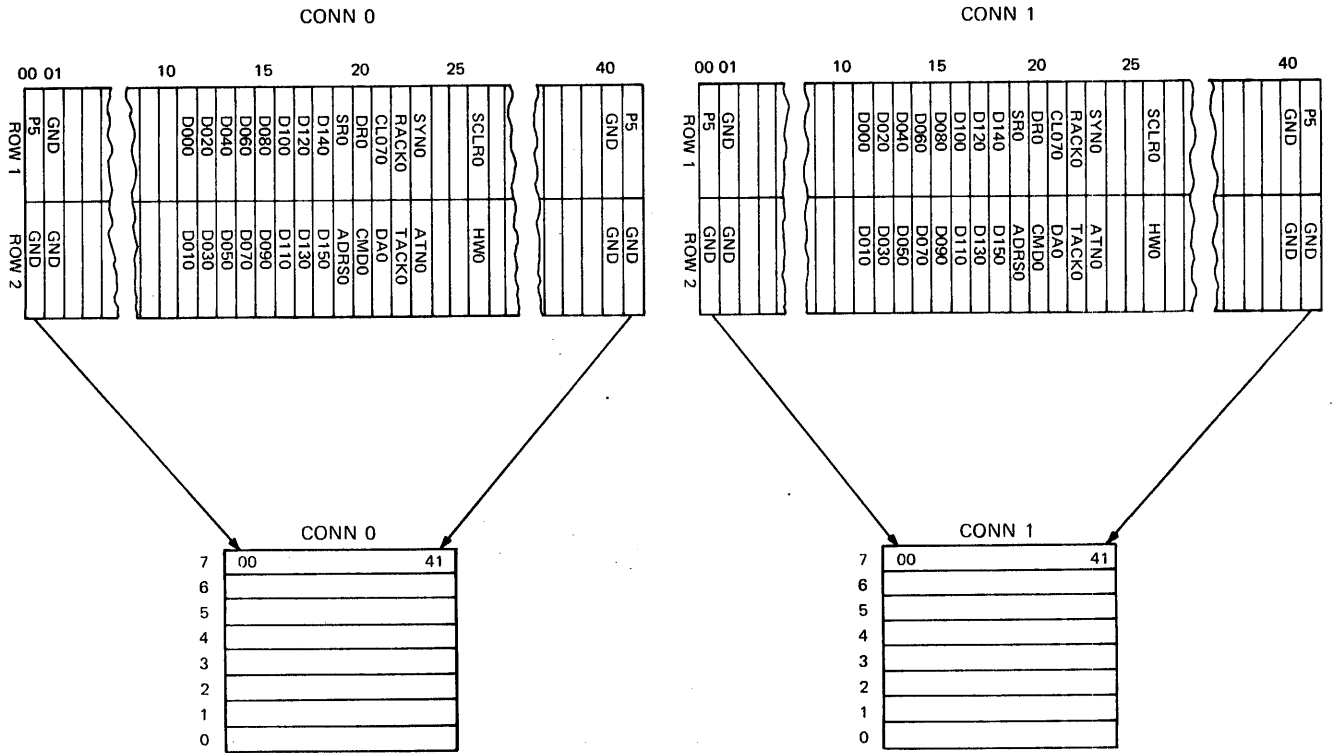

Figure 10-16. I/O Back Panel Connections
1. No pins on the back panel may be used for I/O purposes other than those listed in Figure 10-16. All other pins are reserved for Memory connections or other purposes.